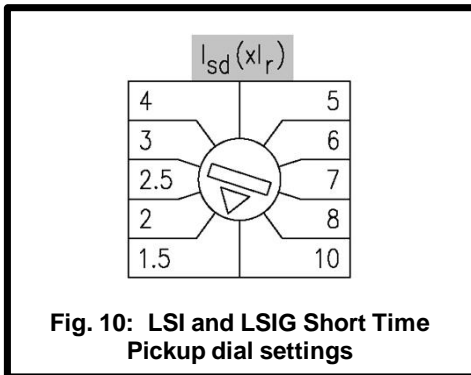

Fig. 10: LSI and LSIG Short Time Pickup dial settings
Circuit breakers with the LSI and LSIG catalog number suffixes have an adjustment to set the Short Time Pickup. Short Time Pickup is an overcurrent protection setting with intentional tripping delay. There are ten (10) Short Time Pickup current settings that range from 1.5 to 10 times the Continuous Current (I_r) setting (see Fig. 10).